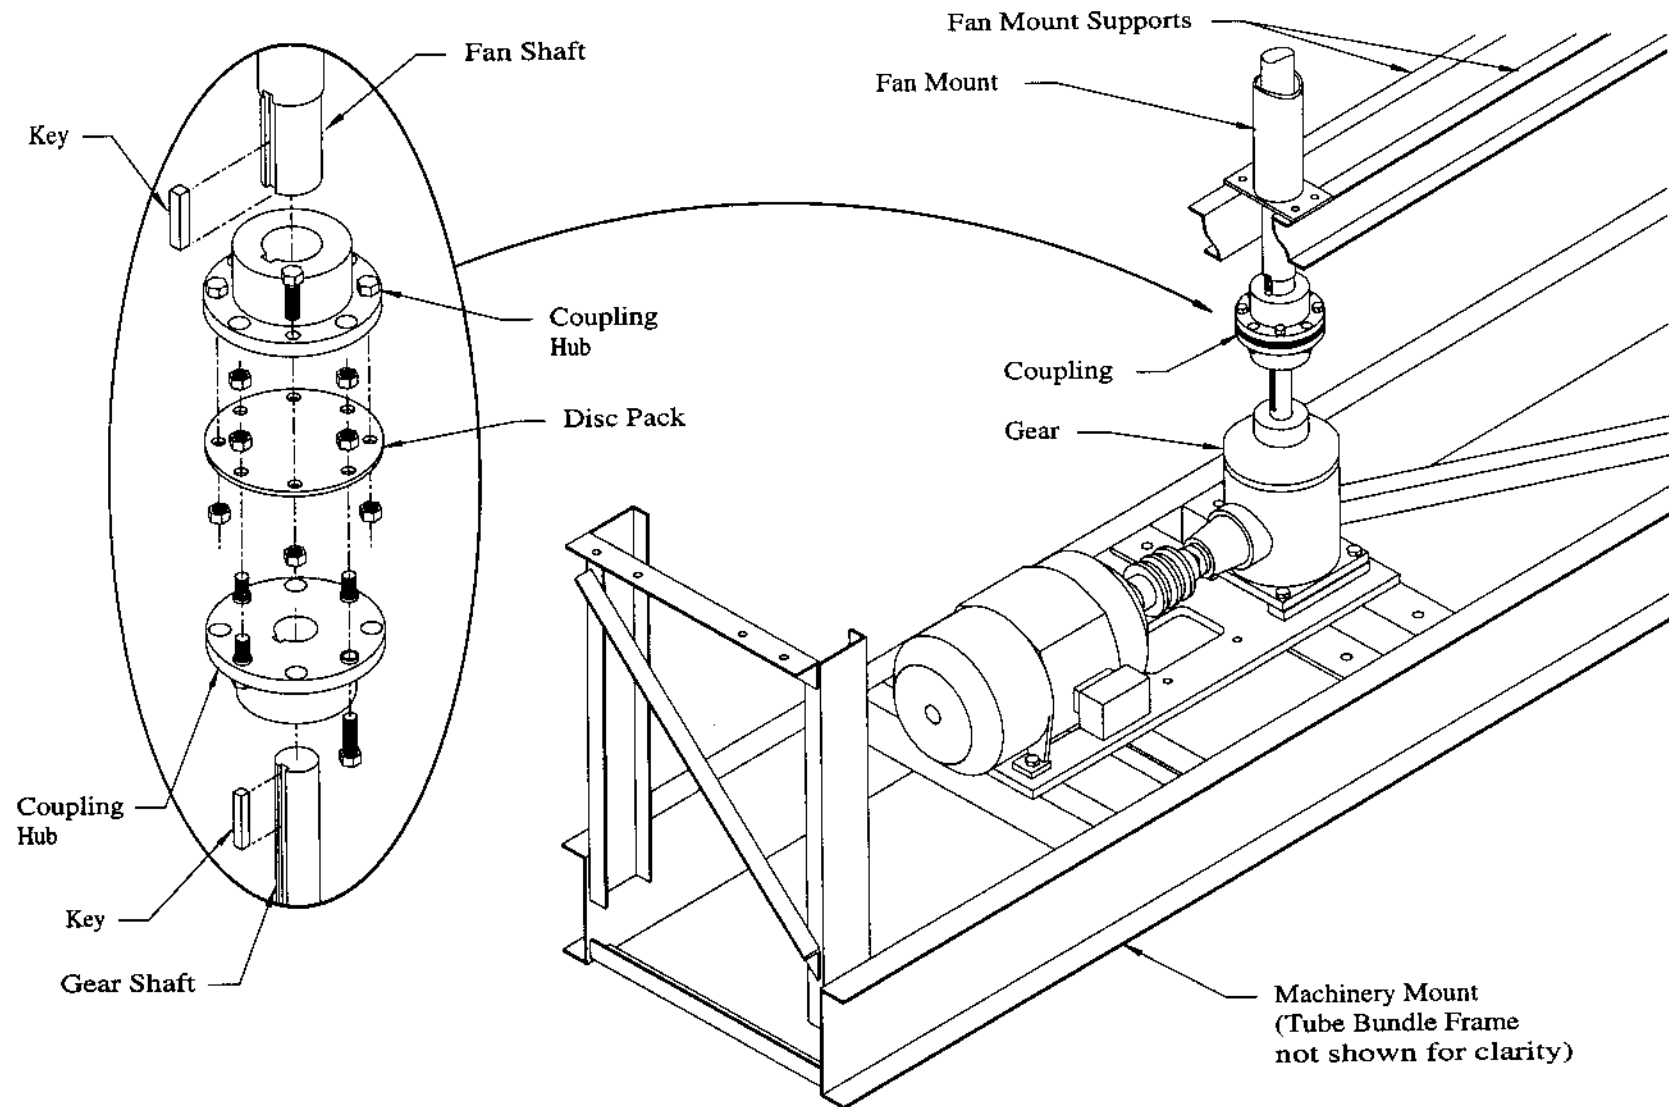

FIG. D1 - FAN SHAFT COUPLING
3. Attach fan shaft coupling, with keys, and align shafts per coupling brochure. See Fig. D1. NOTE: Upper bearing must support fan shaft. Coupling is not designed to take the load of the fan shaft or the fan.